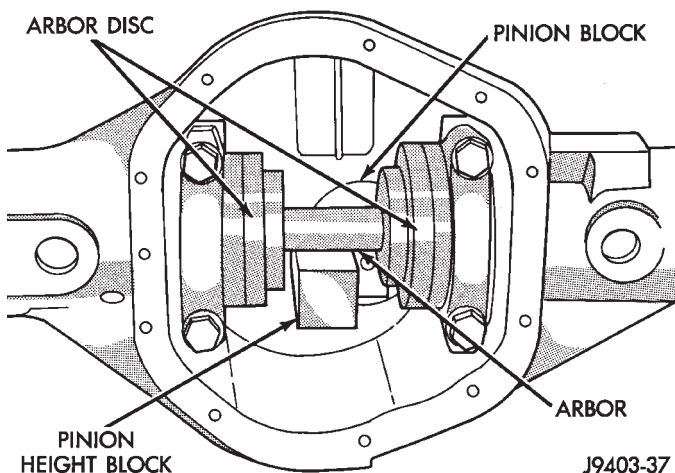

Fig. 61 Gauge Tools In Housing—Typical
(4) Place Arbor Disc 6732 on Arbor D-115-3 in position in axle housing side bearing cradles (Fig. 61). Install differential bearing caps on Arbor Discs and tighten cap bolts to 41 N·m (30 ft. lbs.).